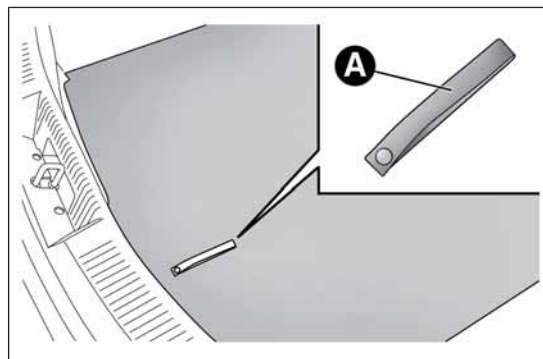

fig. 114
- ☐ open the luggage compartment, pull tab A fig. 114 and lift up the mat;